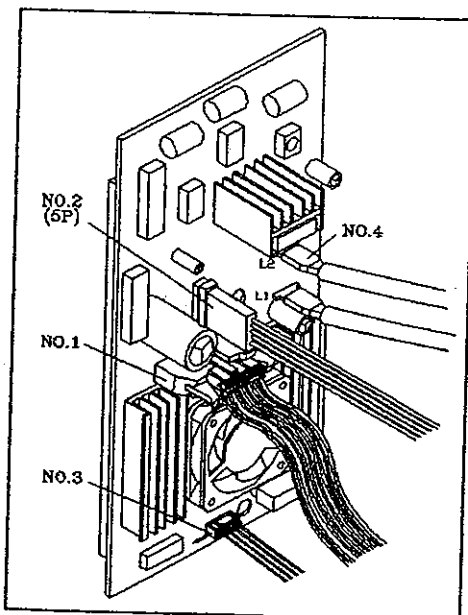

Fig. 2
b. Make sure all connectors to the drive board are plugged in correctly and securely in place (see Fig. 2).